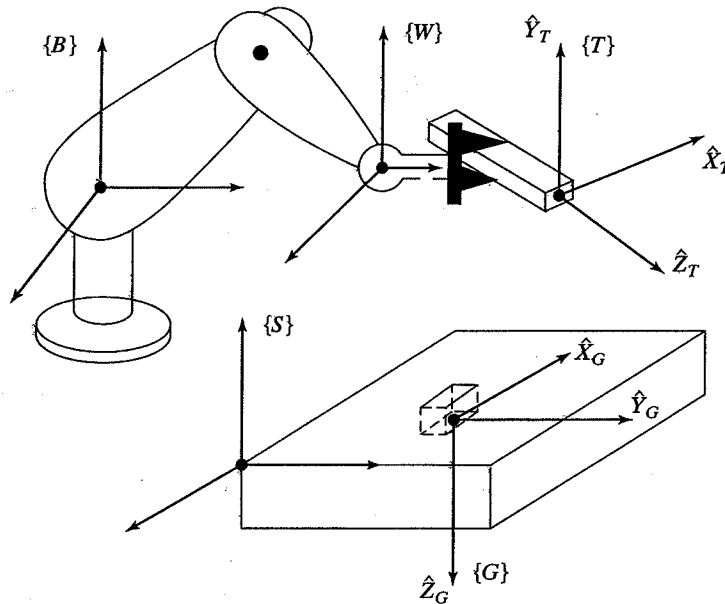

FIGURE 3.31: Determination of the tool frame (Exercise 3.8).
- 38 [13] In Fig. 3.31, the location of the tool, ${}^W T$, is not accurately known. Using force control, the robot feels around with the tool tip until it inserts it into the socket (or Goal) at location ${}^S G$. Once in this "calibration" configuration (in which $\{G\}$ and $\{T\}$ are coincident), the position of the robot, ${}^B W$, is figured out by reading the joint angle sensors and computing the kinematics. Assuming ${}^B S$ and ${}^S G$ are known, give the transform equation to compute the unknown tool frame, ${}^W T$.